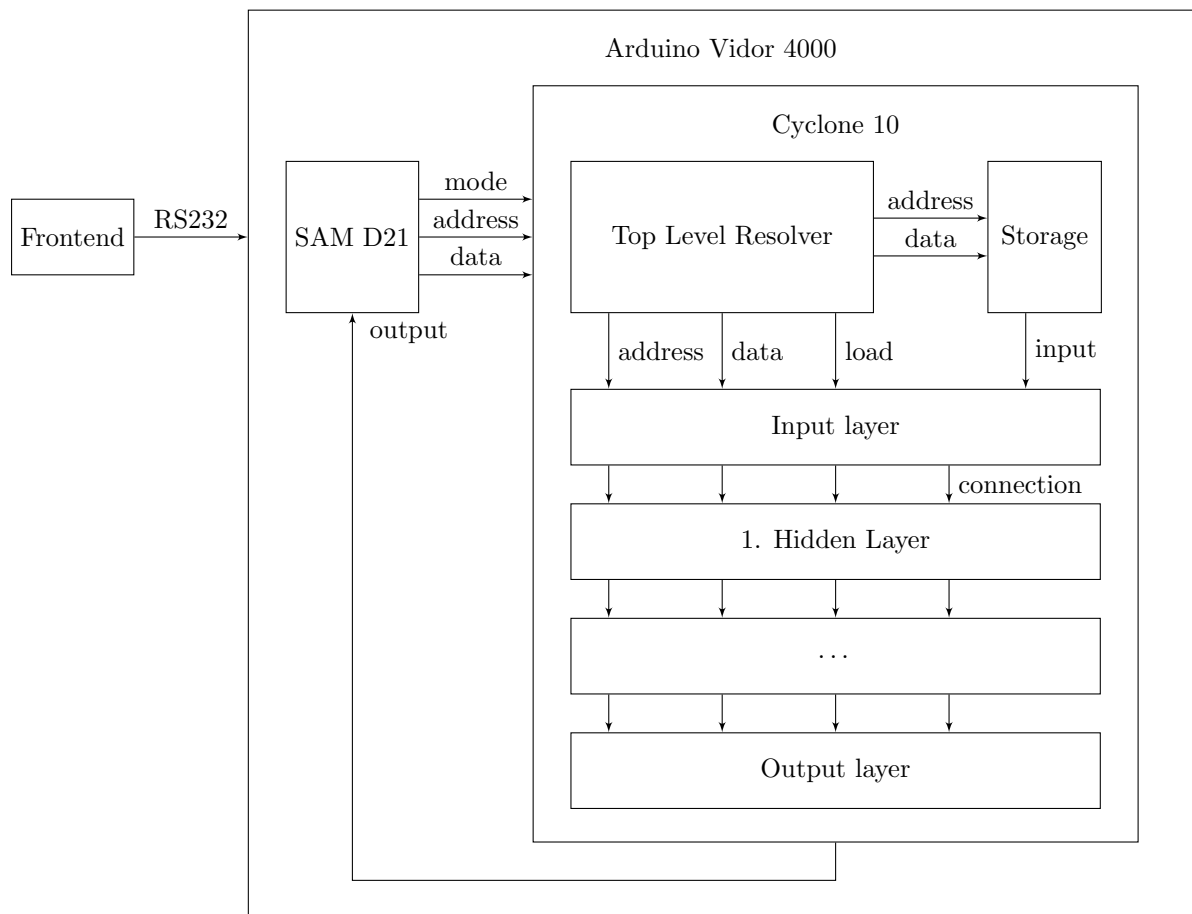

Figure 2.1: Top Level Hardware Model
The hardware of this project consist of a 32-bit microcontroller named SAM D21/DA1 and a Cyclone 10 FPGA. Both chips are placed on a board, so called Arduino Vidor 4000. This board comes with an USB interface, which will be the communication between frontend (PC) and the executing hardware. The figure 2.1 show the most abstract hardware model. This model show the mentioned frontend and hardware, but also the "Top Level Resolver", which distribute the data to either the storage, which holds the data to be proceed, or the new settings for the single perceptron activation functions. In the concret model, the address line has a size of 8-Bit and the data line a size of 4-Bit. This results in a maximum count of 256 perceptrons in 16 layers, if one perceptron of the incomming layer is connected with all perceptrons of the previous outgoing layer. The load line tell the single perceptrons, that they can storage the new information after addressing.